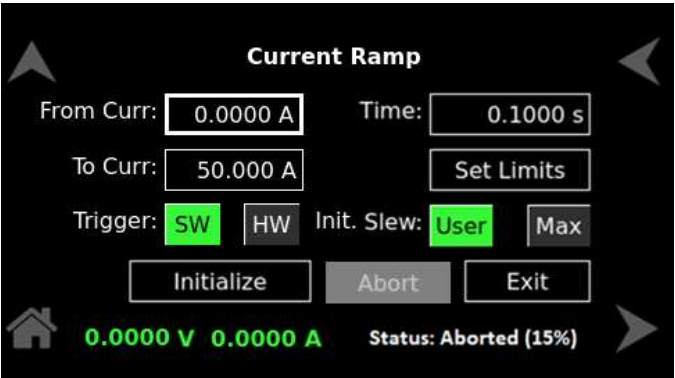

Figure 9-81. Status – Aborted
**e) Aborted:** When the process is aborted (Initializing, Waiting for Trigger, Running), ‘Aborted’ is displayed in the status. Refer to Figure 9-81.